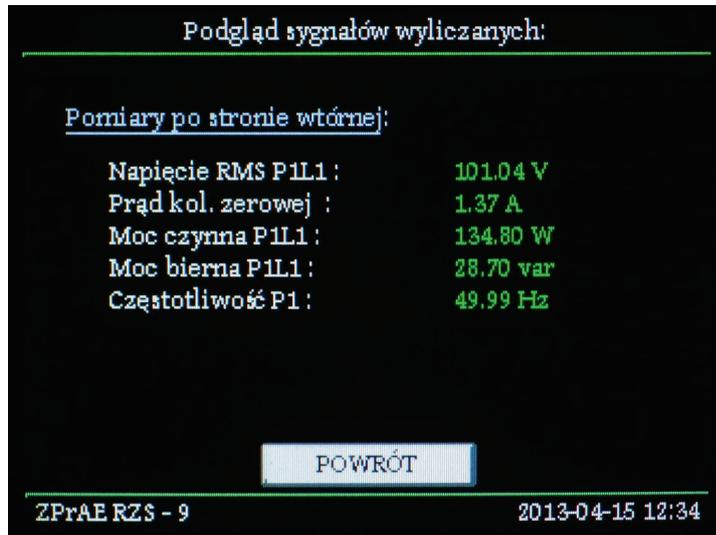

Fig. 2.5. Calculated signals preview screen.
- **CALCULATED VALUES** – press to access the preview screen with present values of configured calculated signals (fig. 2.5.).